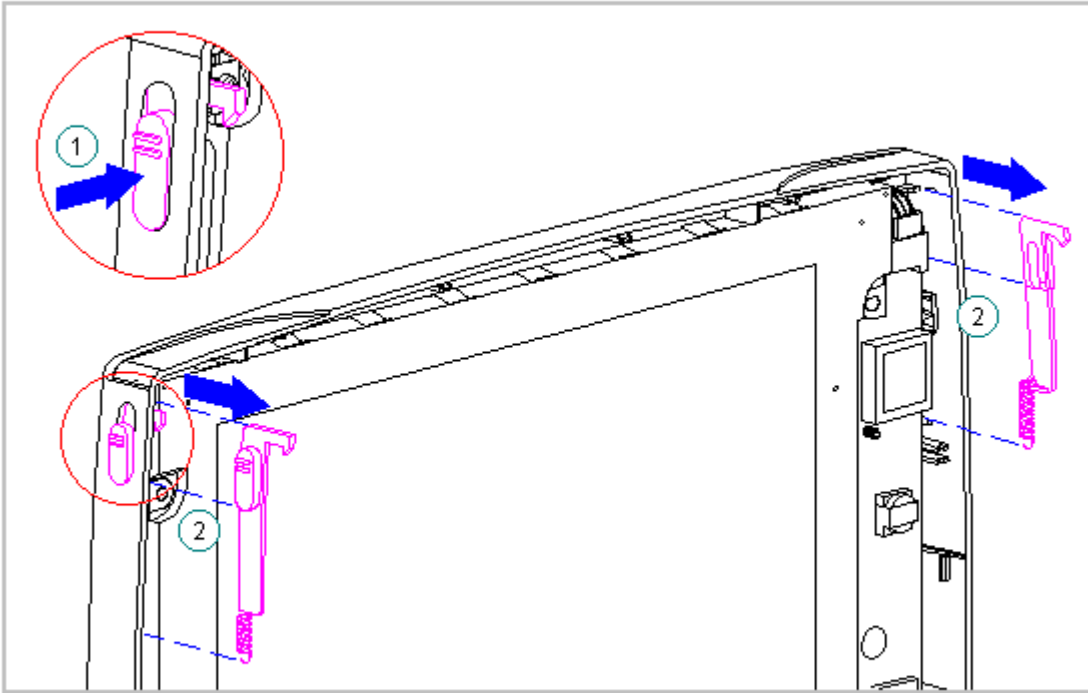

Figure 3-131. Removing the Display Latch from the Display Enclosure (Models 420 and 430)
4. Hold the bottom of the latch near the spring. Flex the hook end of the display latch away from the display enclosure [1] (Figure 3-131).
5. Pull the display latch from the top, then out of the display enclosure [2] (Figure 3-131).